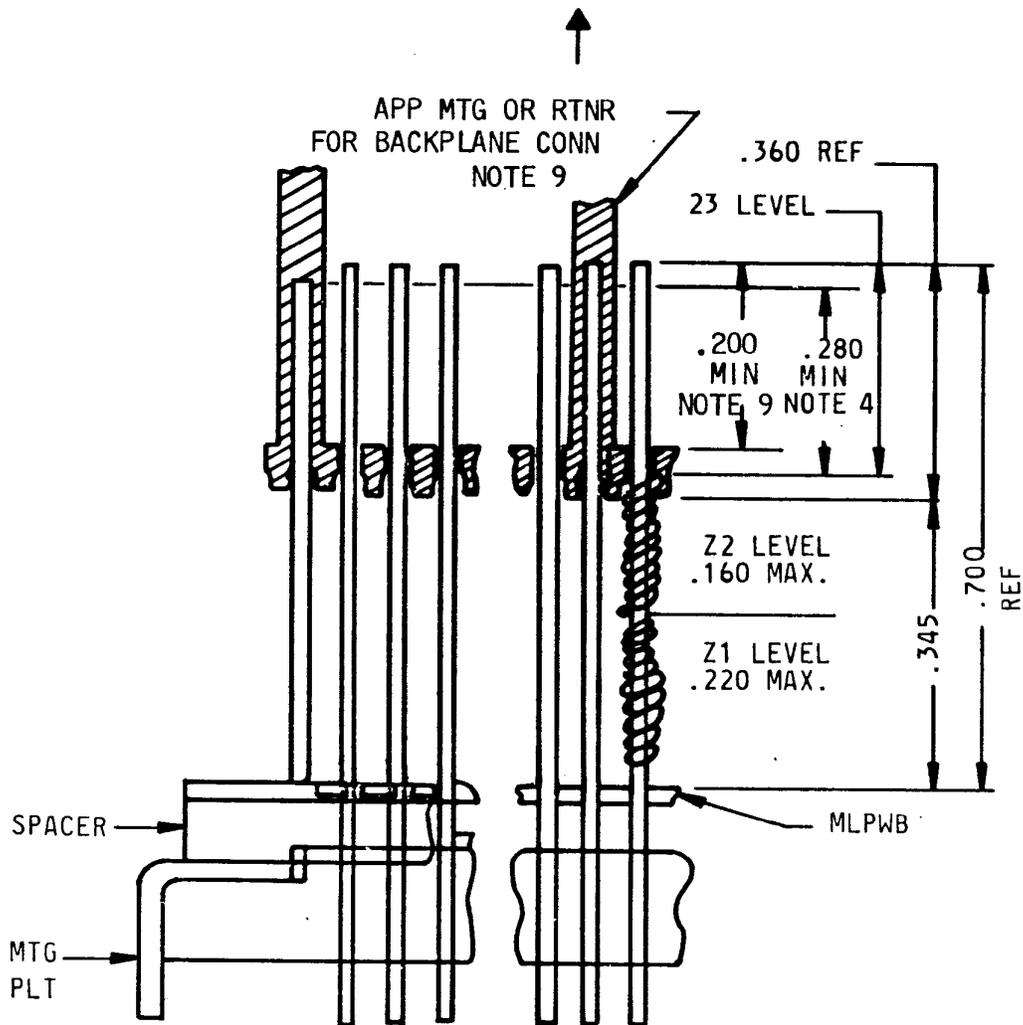

FIG.4
- 4.1 SOLDERLESS WIRE - WRAP CONNECTIONS USING 30 GAUGE WIRE AND MADE BY AUTOMATIC MACHINE (D4) TO THE .025 SQUARE BACKPLANE TERMINALS SHALL BE POSITIONED WITHIN THE Z1 AND Z2 LEVELS SHOWN IN FIG. 4. THE LEVELS TO WHICH EACH CONNECTION IS MADE ARE CONTROLLED BY PROGRAM.
- 4.4 THE MINIMUM START LEVEL FOR THE FIRST CONNECTION MADE BY EITHER AUTOMATIC MACHINES OR HAND-HELD TOOLS MAY OVERLAP INTO THE SOLDER FILLET AREA AS SHOWN IN FIG. 4 IN ORDER TO MAINTAIN WIRES WITHIN THE Z1 LEVEL.